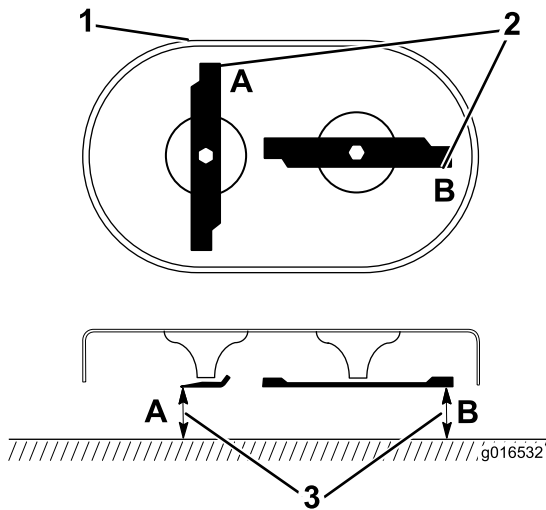

Figure 31
- Rotate the blades until they are positioned as shown in Figure 31.
2. Measure from a level surface to the cutting edges at locations **A** and **B**, (Figure 31), and record both dimensions.